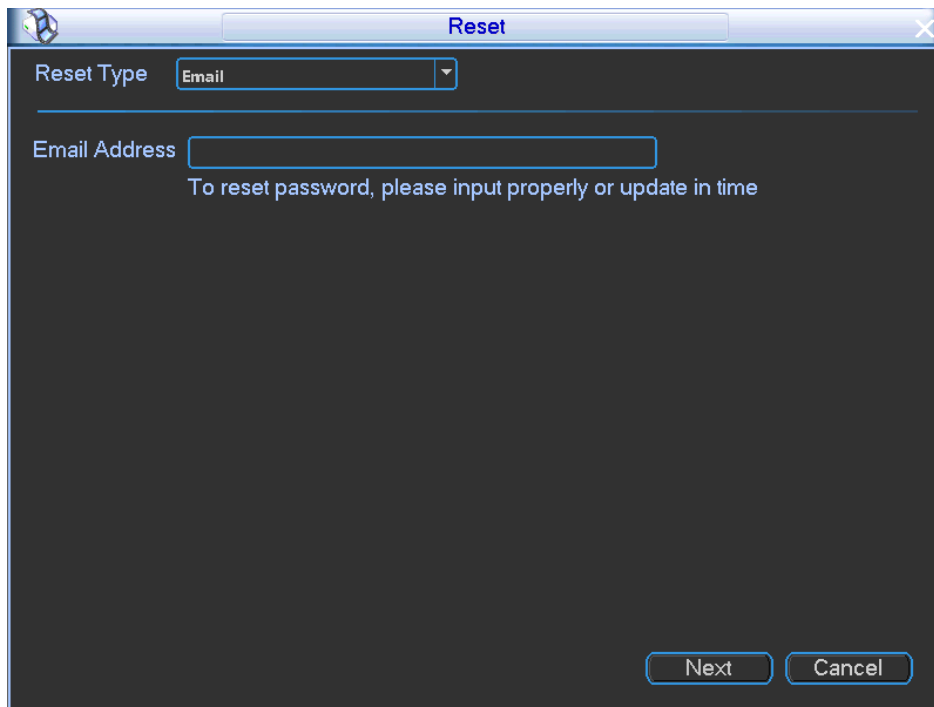
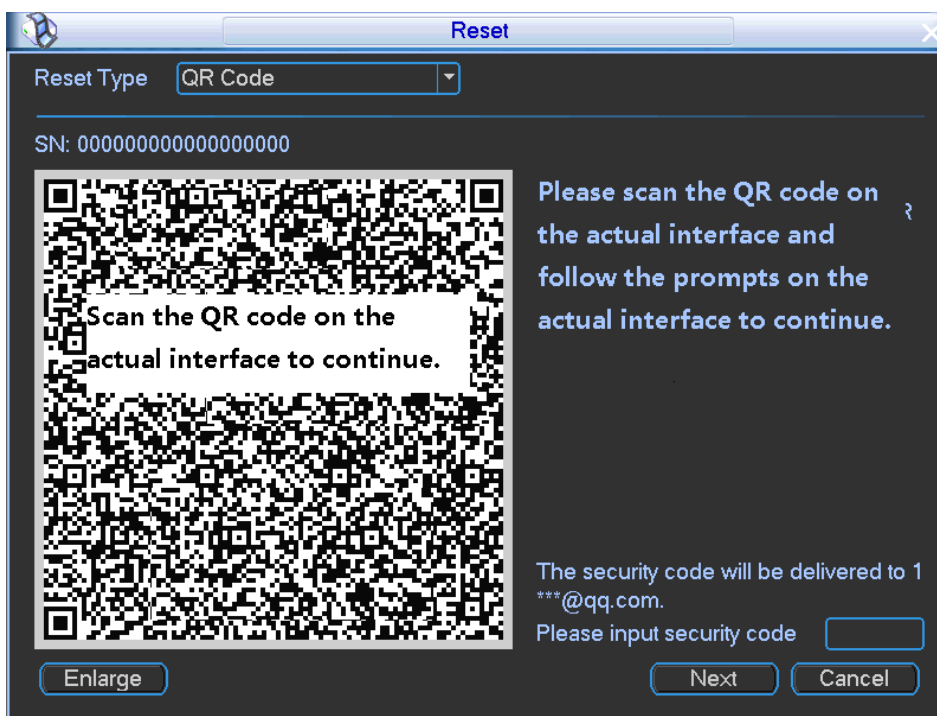

Figure 5-8
Figure 5-9
- If you have not input email address information when you are initializing the device, the interface is shown as in Figure 5-8. Please input an email address and then click Next button, devices goes to Figure 5-9.
- If you have input email when you are initializing the device, device goes to Figure 5-9.
In Figure 5-9, follow the prompts on the interface to scan the QR code, and then
In Figure 5-8, select security question from the drop down list. Device displays security question interface. See Figure 5-10. Please input the correct answers here.